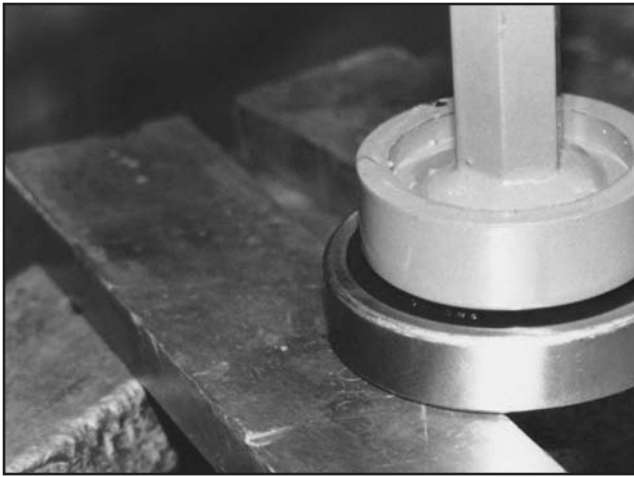

FIGURE 41
5) Position the bearing block on a suitable work surface. A common shop vise can also be utilized. Remove the snap ring that retains the bushing in the bearing bore. FIGURE 41.